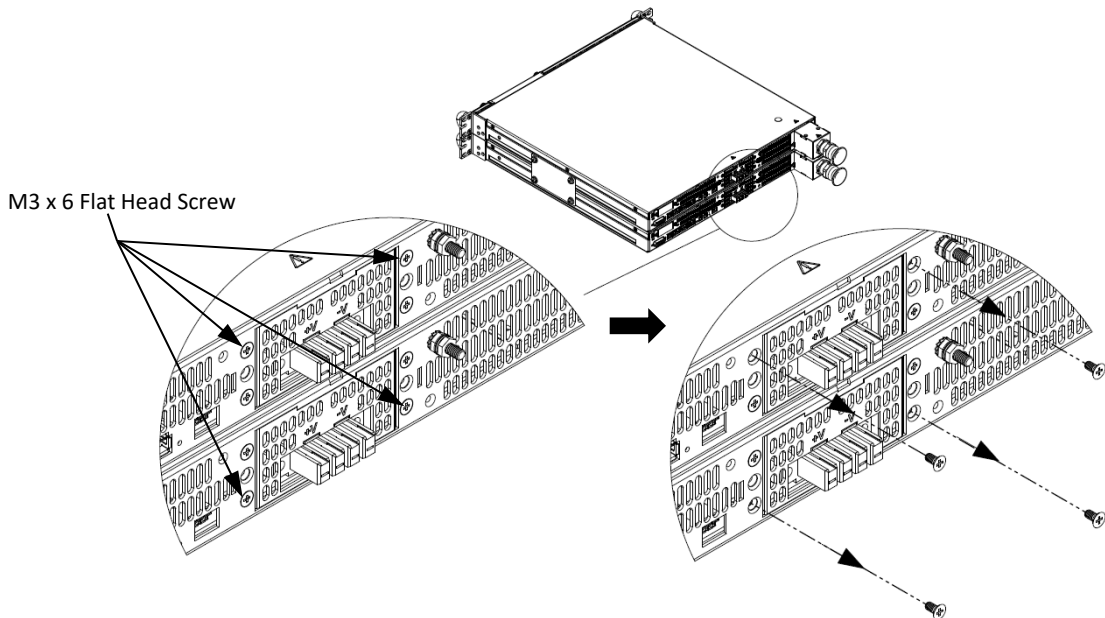

Figure 24: Power supply's back side screws removal
2. Loose and remove four flat head screws from power supply's back side as illustrated in Figure 24.